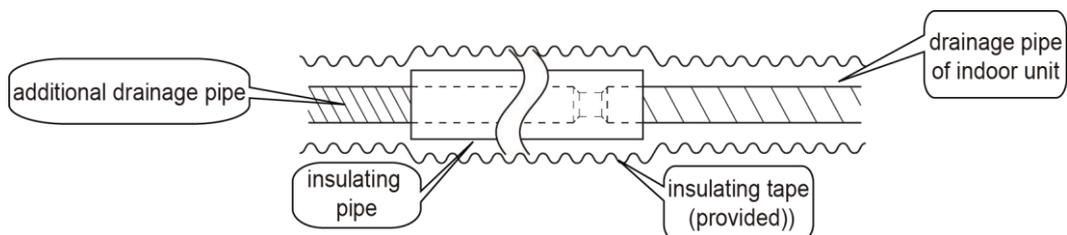

Fig 4.3.1
- (1) It is not allowed to connect the condensate drain pipe into waste pipe or other pipelines which are likely to produce corrosive or peculiar smell to prevent the smell from entering indoors or corrupt the unit.
- (2) It is not allowed to connect the condensate drain pipe into rain pipe to prevent rain water from pouring in and cause property loss or personal injury.
- (3) Condensate drain pipe should be connected into special drain system for air conditioner.
- (4) The drainage pipe should be short and the gradient downwards should be at least 1%~2% in order to drain condensation water smoothly.
- (5) The diameter of drainage hose should be bigger or equal to the diameter of drainage pipe joint.
- (6) Install drainage pipe according to the following fig and arrange insulation to the drainage pipe (Fig 4.3.1). Improper installation may lead to water leakage and damp the furniture and other things in the room.
- (7) You can buy normal hard PVC pipe used as the drainage pipe. During connection, insert the end of PVC pipe into the drainage hole and then tighten it with drainage hole and wire binder. Can't connect the drainage hole and drainage hole with glue.
- (8) When the drainage pipelines are used for several units, the position of pipeline should be about 100mm (4in.) lower than the drainage port of each unit. In this case, thicker pipes should be applied.